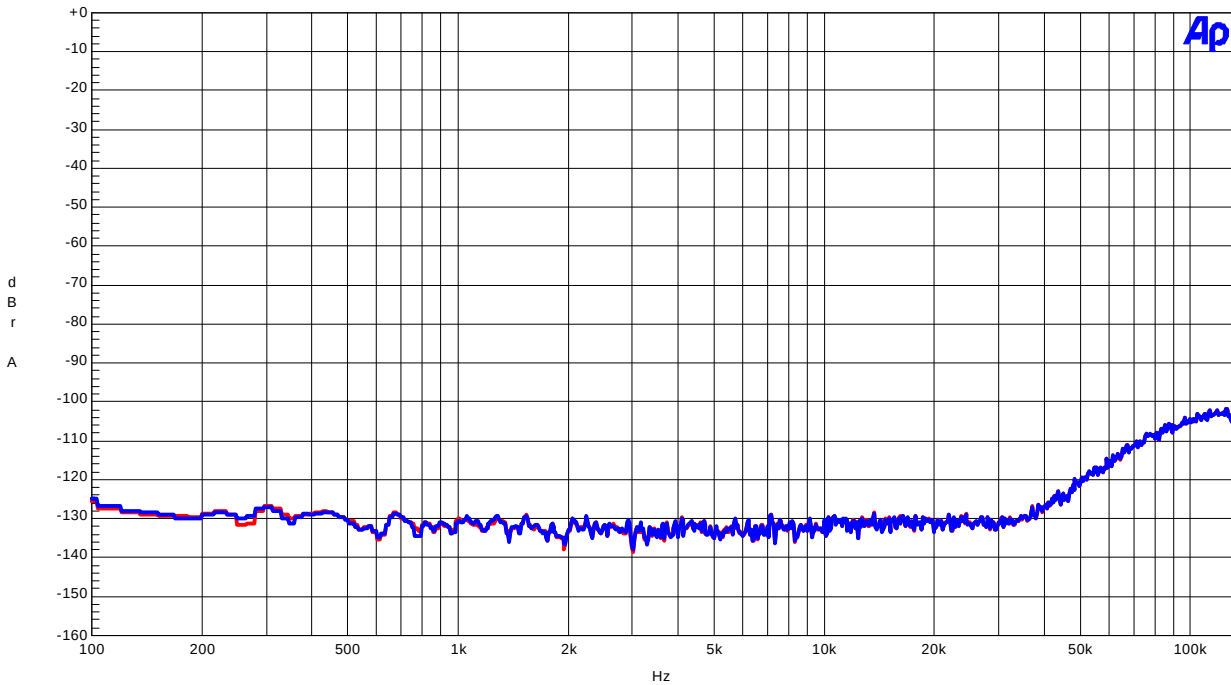

Figure29. FFT (out-of-band noise)
- Figure29. FFT (outband noise)